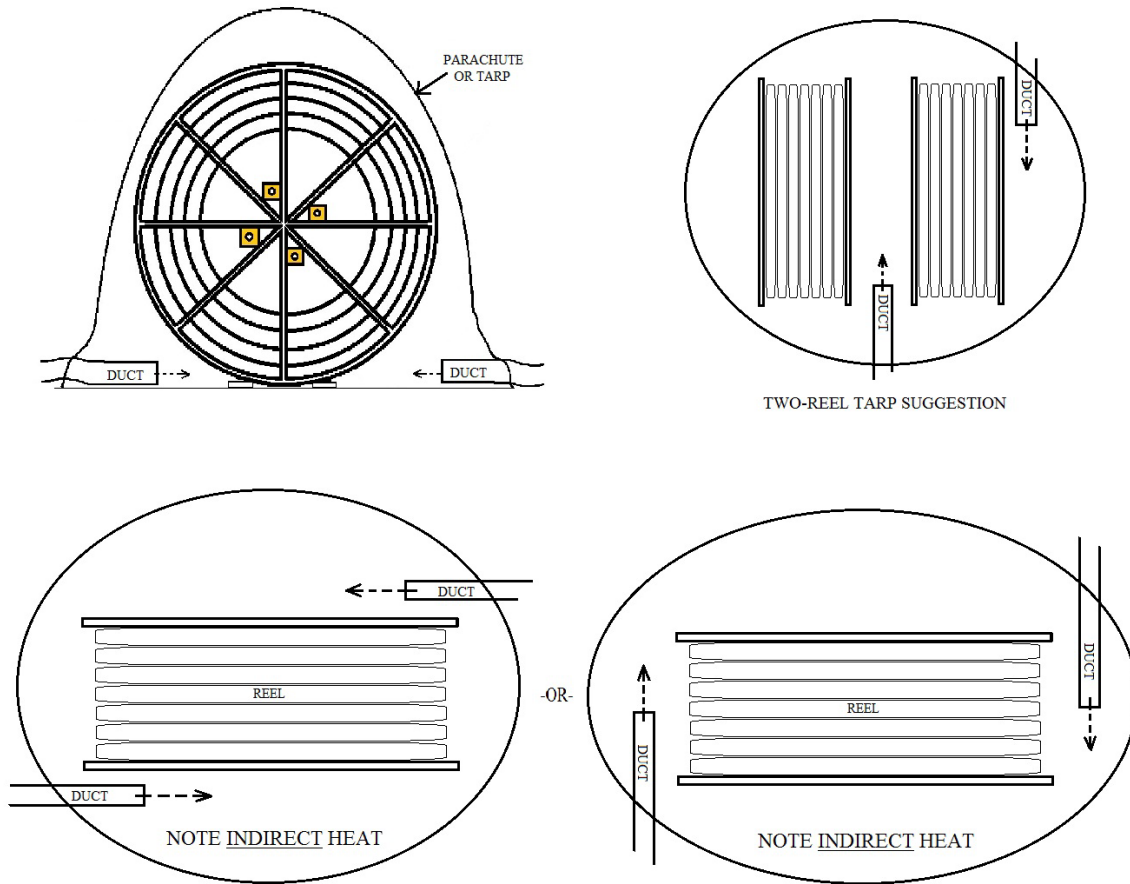

Figure 1: Recommended Tarp Setups for Heating
2. Heat the enclosed space with portable heaters of sufficient size, generally 400,000-500,000 btu (see recommended setup in Figure 1). Care must be taken to ensure that heat is not applied directly to the surface of the pipe and that no portion of the pipe exceeds 60°C at any point during the heating process. It is critical to monitor pipe surface temperature throughout the heating procedure and ensure that precautions are taken to ensure that the enclosure does not ignite.